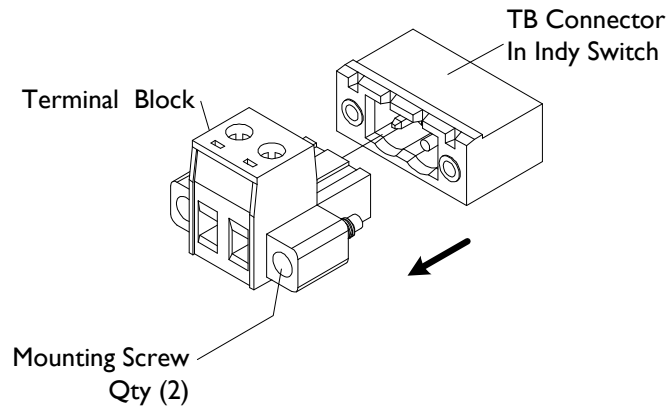

Figure 10: Terminal Block
•	Loosen the “2” mounting screws, attaching the “primary” Terminal Block to the switch chassis, and then pull it from the chassis connector as shown in Figure 10 below.